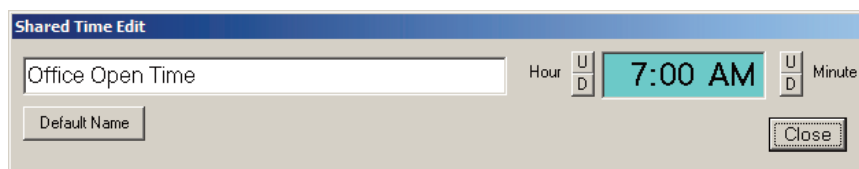

Figure 2.20 Shared Time
3. Click U or D for Up and Down to adjust the hour and minute settings for this shared time as shown in figure 2.20.